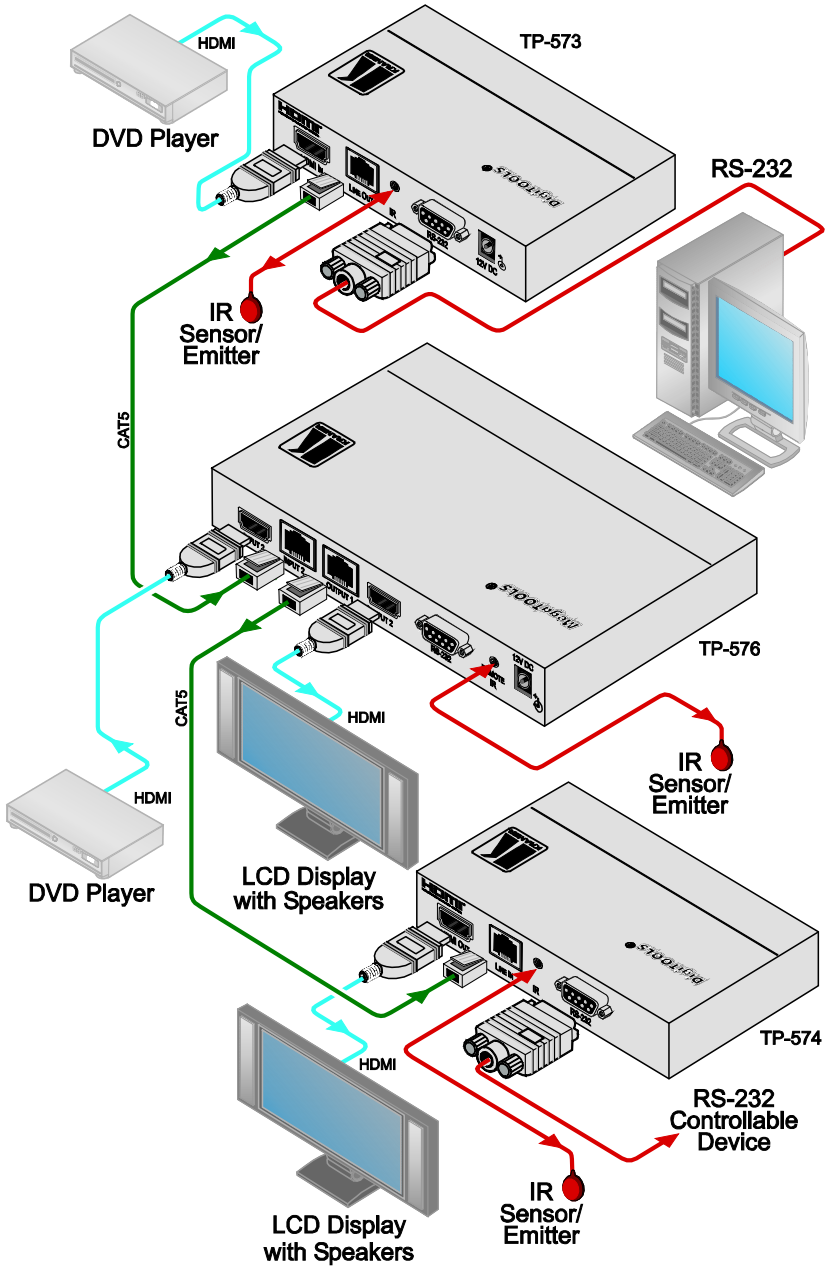

Figure 2: Connecting a TP-576 HDMI / CAT5 Line Driver
To connect the **TP-576** together with the **TP-573 HDMI/RS-232/IR Line Transmitter** and the **TP-574 HDMI/RS-232/IR Line Receiver**, as illustrated in the example in Figure 2, do the following:
4. The 12V DC power supply³ to the **TP-576** (not shown in Figure 2).
9. The 12V DC power supply to the **TP-576** (not shown in Figure 2).